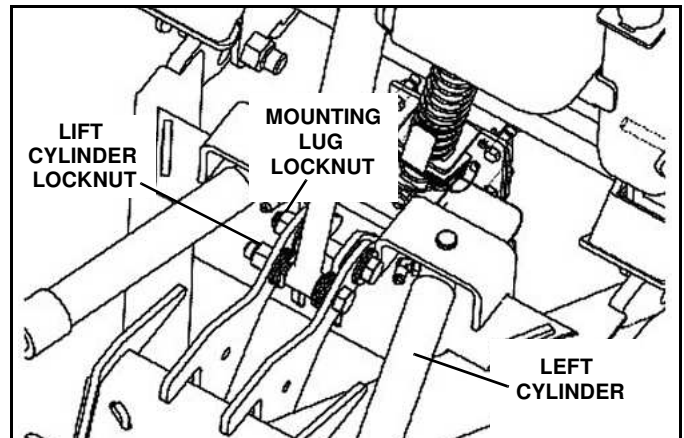

Figure 1-21
- i. Install 3/4" locknuts on both cap screws. The lift cylinder rod end must be able to pivot in the brackets - Do not over-tighten this locknut. (See Figure 1-21).
- j. Reposition left cylinder base in A-frame and secure with original cap screw and locknut. (See Figure 1-21).